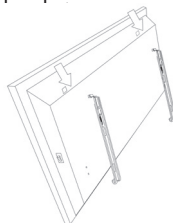

Figure 8. Back view of fastening the upper
5. Back side of the Electric Panel Convector Heater with arrow sign will be placed to the plastic part of the wall mounting brackets as shown in the figure 8. (↓)